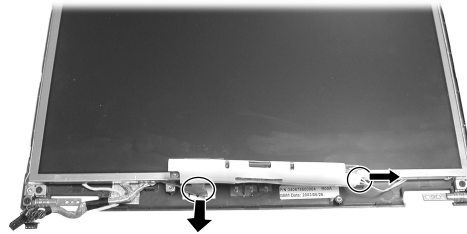

Figure 2-30 Remove the inverter board
5. To remove the inverter board on the lower part of the LCD housing , disconnect two cables. (Figure 2-30)